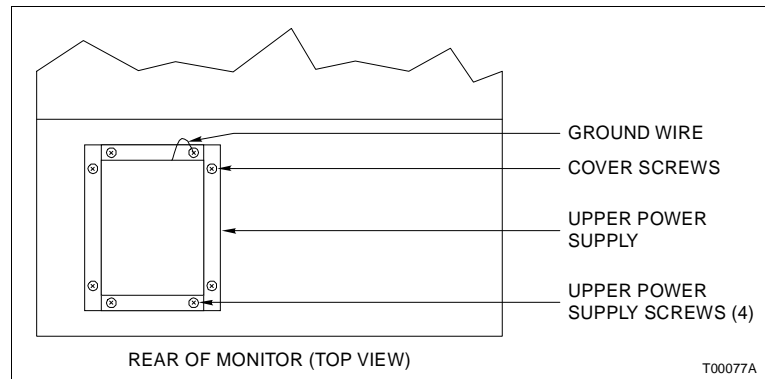

Figure PR64-2. Upper Power Supply
- 5. If there is an upper power supply in the work station, remove the four upper power supply screws and remove the upper power supply from the back of the monitor (Fig. PR64-2).